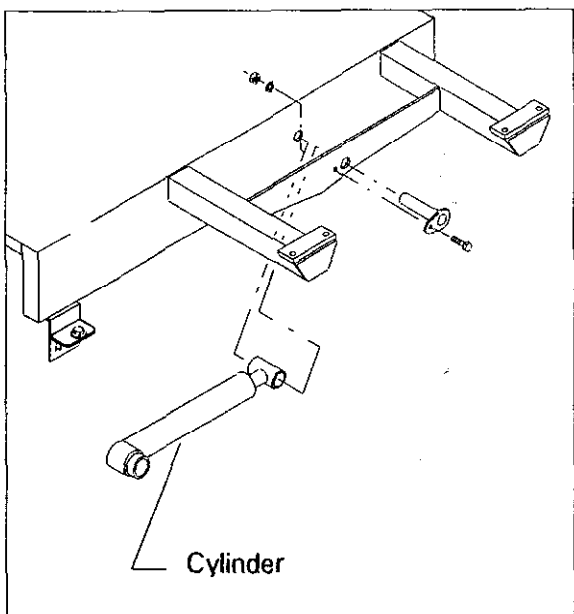

Figure 7
WORKMAN ENGINE OR HYDRAULICS (Fig. 7)
2. Attach the cylinders as shown in Fig. 7. Use the tilt of the cylinders only for service of the engine or hydraulics underneath.